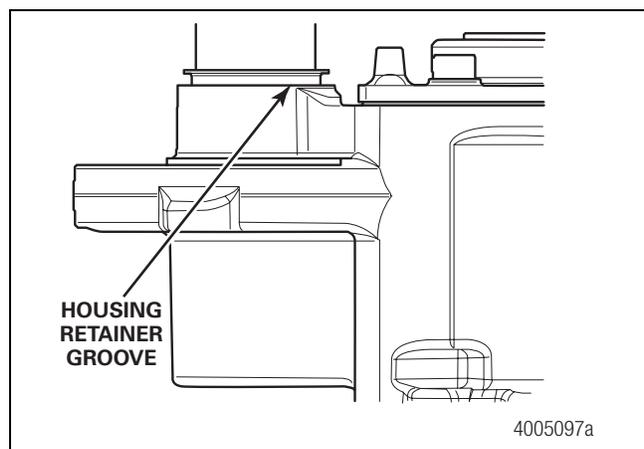
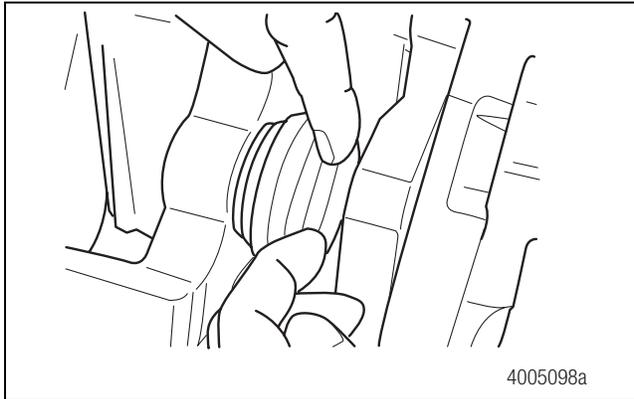

Figure 5.26
Figure 5.27
3. Install the slide pin boot beads into the housing retainer grooves. Figure 5.26 and Figure 5.27.